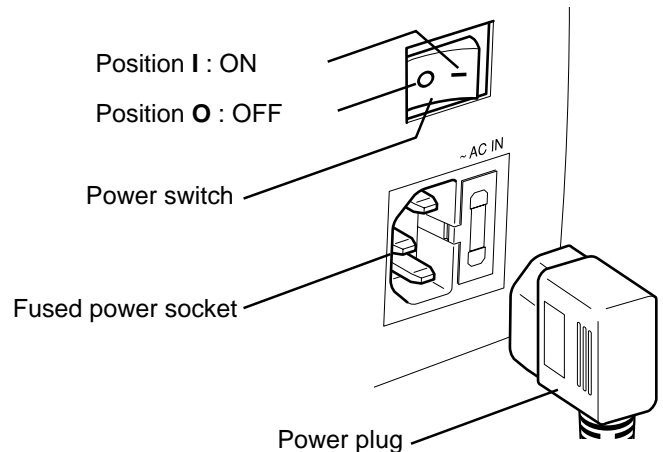

Fig. 30
**CAUTION:** Connect the projector to a power supply with a nominal voltage within the following values: 100-240 Vac, 50/60 Hz. It must be earthed (Fig. 30).